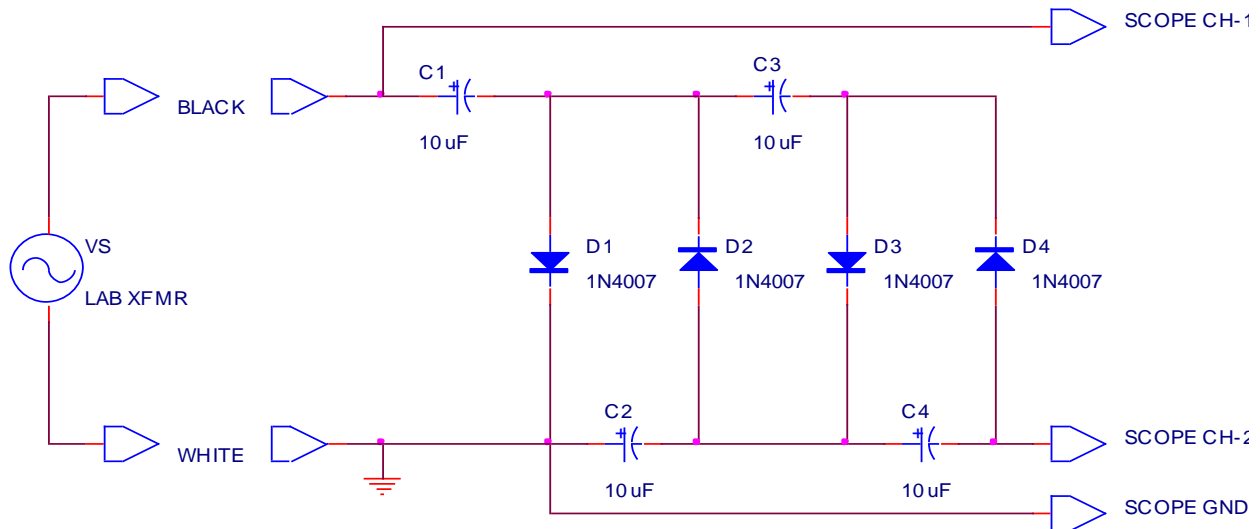

Figure E2.8
Add additional diodes and capacitors to the breadboard to produce the circuit shown in Fig. E2.8 below. Be very careful to install each diode and each capacitor in the correct polarity. The parts used in this circuit are:
**Measurement-8** Adjust the vertical position of both oscilloscope channels so that the zero voltage level is aligned to the center cross hair on the screen. Draw a schematic of the multiplier circuit in your notebook, and then place a little sketch of the voltage waveform existing at each end of each diode (8 nodes total) beside each of the nodes in your schematic. Use the Ch-2 oscilloscope probe to sample each of these waveforms. Measure the DC output voltage that appears at the node between D4 and C4, as shown in Fig. E2.8. This is
The circuit of Fig. E2.8 is generically termed a negative even multiplier. If the peak input voltage is  $V_m$ , then this particular circuit delivers an output voltage of  $-4(V_m - V_\gamma)$ , where  $V_\gamma$  is the turn-on voltage of the diodes. Thus, the circuit is more specifically termed a negative voltage quadrupler. In your notebook, draw the schematics for a positive voltage doubler circuit which provides  $+2(V_m - V_\gamma)$ , and for a positive voltage tripler circuit which provides  $+3(V_m - V_\gamma)$ . Be very careful to consider the necessary polarities on both the diodes and the capacitors. If you have time, you might try out your designs on the breadboard to prove that they work properly.